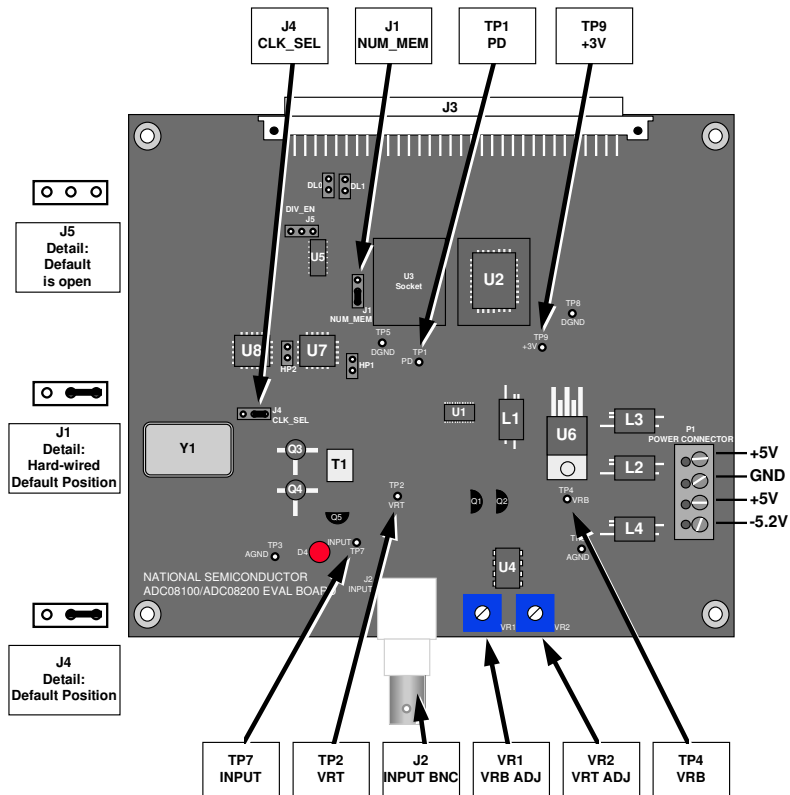

Figure 1. Component and Test Point Locations
The ADC08100 Evaluation Board may come pre-assembled or as a bare board that must be assembled. Refer to the Bill of Materials for a description of components, to *Figure 1* for major component placement and to *Figure 2* for the Evaluation Board schematic.
Refer to *Figure 1* for locations of test points and major components.
Refer to Figure 1 for locations of connectors, test points and jumpers on the board.
2. Set jumper J4 to its default position, as shown in *Figure 1* to divide the clock oscillator frequency by two for the ADC08100.
6. Be sure jumper JP4 is set to divide the 100MHz clock by 2. This is the default position as shown in *Figure 1*.
Refer to Figure 1 for locations of connectors, test points and jumpers on the board. If at any time the expected response is not obtained, see section 5.2.6 on Troubleshooting.